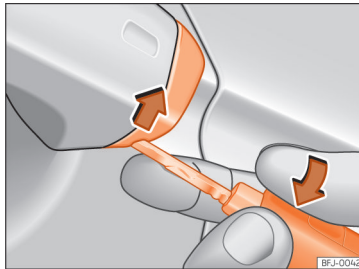

Fig. 97 Driver door handle: lever the cover off
- Insert the key shaft into the lower opening in the cover on the driver door handle » Fig. 97 then remove the cover upwards.